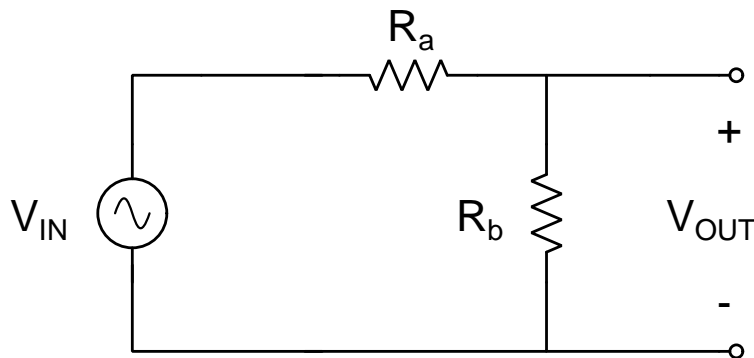
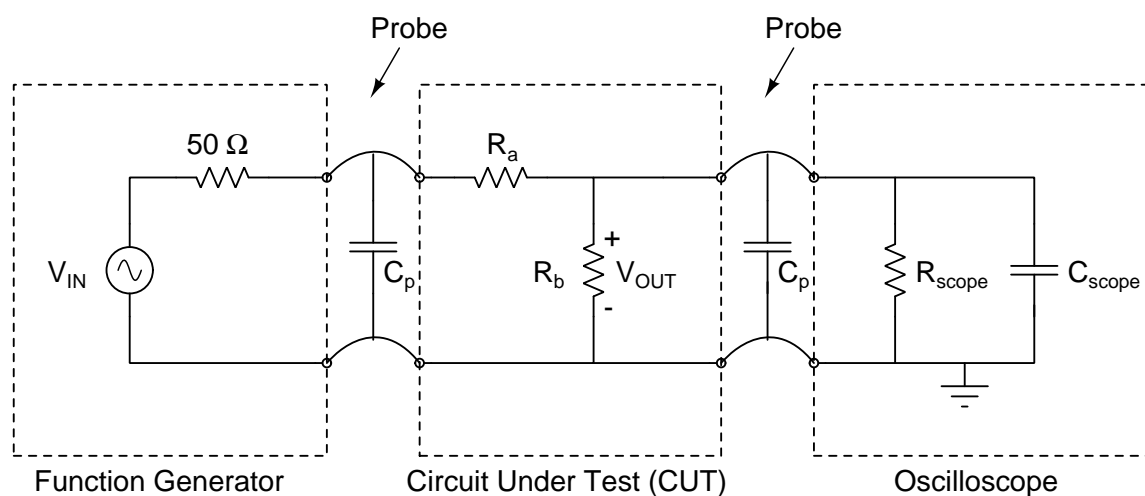

Figure 1: The circuit under test (CUT) is an ideal resistor divider circuit.
Figure 2: Measurement set-up for the resistor divider circuit.
Introduction In this lab you are to determine the voltage ratio, V_{OUT}/V_{IN} , produced by the voltage divider with resistors R_a and R_b shown in Figure 1.
This lab illustrates that the actual values of the components, and the impedances associated with the test equipment and cables, must be considered when determining the actual value of the voltage across a circuit element. All voltage sources, including batteries, have a finite source impedance. All measurement equipment, including oscilloscopes and digital volt meters (DVMs), have a non-infinite input impedance that presents a load to the circuit. Cables that connect the circuit to the test equipment introduce additional impedances in the circuit. The schematic showing the circuit under test (CUT) connected to a function generator and oscilloscope is shown in Figure 2.
1. Use the Keystone E4980A LCR Meter to measure the capacitance of both the 1X probes and the scope probes at a frequency of 1kHz. Make sure the capacitance meter is set to measure capacitance with series resistance. Also measure the Dissipation Factor (DF) of the probes at a frequency of 1kHz. Record these values in your notebook.
4. For each of the three pairs of resistors, place two resistors with the same value on the breadboard to make a series circuit as shown in Figure 1. If the resistors have slightly different values, make sure you keep track of which resistor is which.
9. Set the FG to generate a 1kHz sinusoidal signal with peak voltage $V_{IN} = 1V$. Verify both the frequency and peak voltage using the scope then connect the FG and scope to the resistors as shown in **Figure 2**.
For the voltage divider circuit, an estimate of the error introduced by the measurement apparatus can be obtained by comparing the values of V_{OUT} obtained from an analysis of the circuit in Figure 1, with the values of V_{OUT} obtained from an analysis of the circuit in Figure 2.
1. Derive an equation $V_{OUT1}(R)$ expressing the output voltage V_{OUT} as a function of the resistance R for the circuit of **Figure 1**. Do not include in the calculation the capacitance of the probes, the output resistance of the FG, or the input impedance of the scope.
2. Derive an equation $V_{OUT2}(R)$ expressing the output voltage V_{OUT} as a function of the resistance R for the circuit of **Figure 2**. Include in the calculation the capacitance of the probes, the output resistance of the FG, and the input impedance of the scope.
Use NGspice to simulate the expected output voltage V_{OUT} as a function of the resistance R for the circuit of **Figure 2**. Include in the simulation the capacitance of the 1X probes, the output resistance of the FG and the input impedance of the scope. A Matlab[®] template file (<https://goo.gl/tKLGnV>) and an hspc simulation file (<https://goo.gl/S8HLhn>) are available on the course website.